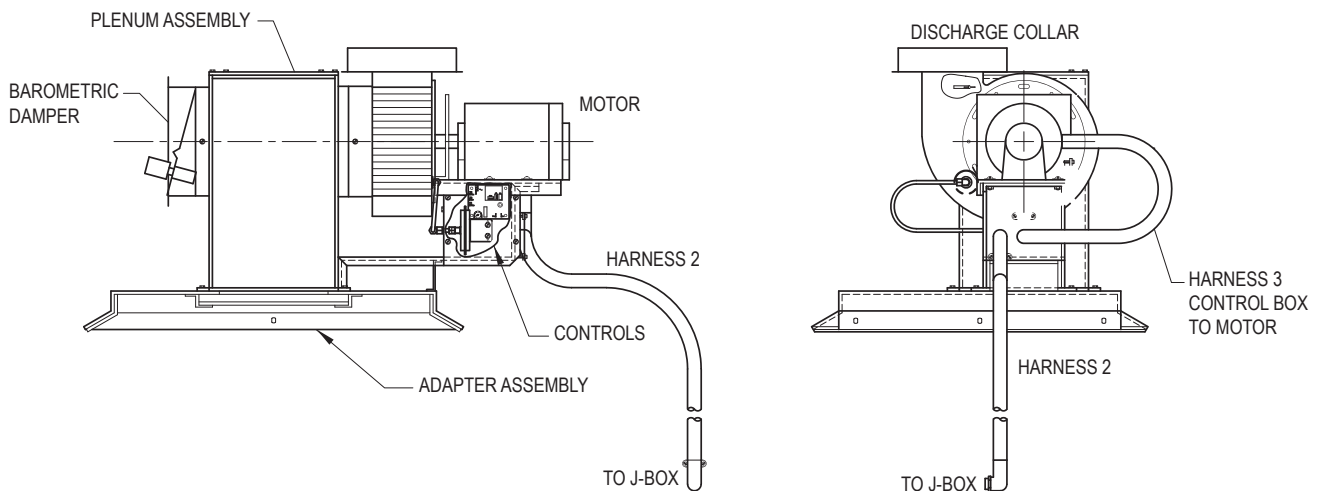

Figure 4. Orientation, Models 0514-0824
3. Locate the plenum assembly to the jacket top, using the silicone sealant and screws provided. Use a #28 drill (.1405") to drill the eight (8) holes needed for the mounting screws. The assembly will be positioned towards the rear of the heater. Note that the main housing is centered on the flue collar of the unit. The discharge collar is offset from that. See table C for dimensions. Once the screw holes have been drilled, run a bead of silicone sealant around the perimeter of the joint and screw the housing into place.
6. Identify and lay out the conduit-enclosed wiring harnesses per the orientation drawing, **Figure 4**.
The D-1 Power Vent for these sizes is installed in the field, directly on the top panel above the built-in draft hood. The adapter plate is anchored to the top using the silicone sealant and screws provided. Refer to **Figure 4**.